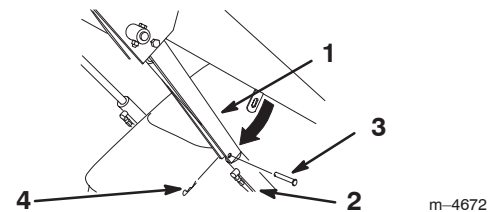

Figure 14
4. Remove the hairpin cotter and clevis pin securing the cylinder lock to the loader arm (Fig. 14)
5. Lower the cylinder lock over the cylinder rod and secure it with the clevis pin and hairpin cotter (Fig. 14).
5. Rotate the cylinder lock up to the loader arm and secure it with the clevis pin and hairpin cotter (Fig. 14).